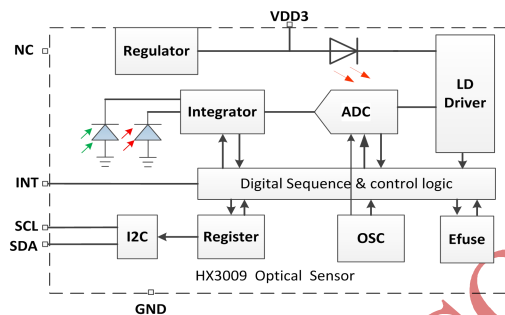

Figure 1. Simplified Block Diagram
HX3009 is an ultra-low power integrated proximity sensor with a built-in IR Laser Diode (LD) and I²C interface in 2×1mm 6pin package (MSL3). The device is designed for the short distance detection with auto ambient light and structure crosstalk noise cancellation function. Fig.1 shows the simplified block diagram of the device. Detail information and specification of each function blocks will be described in following sections.